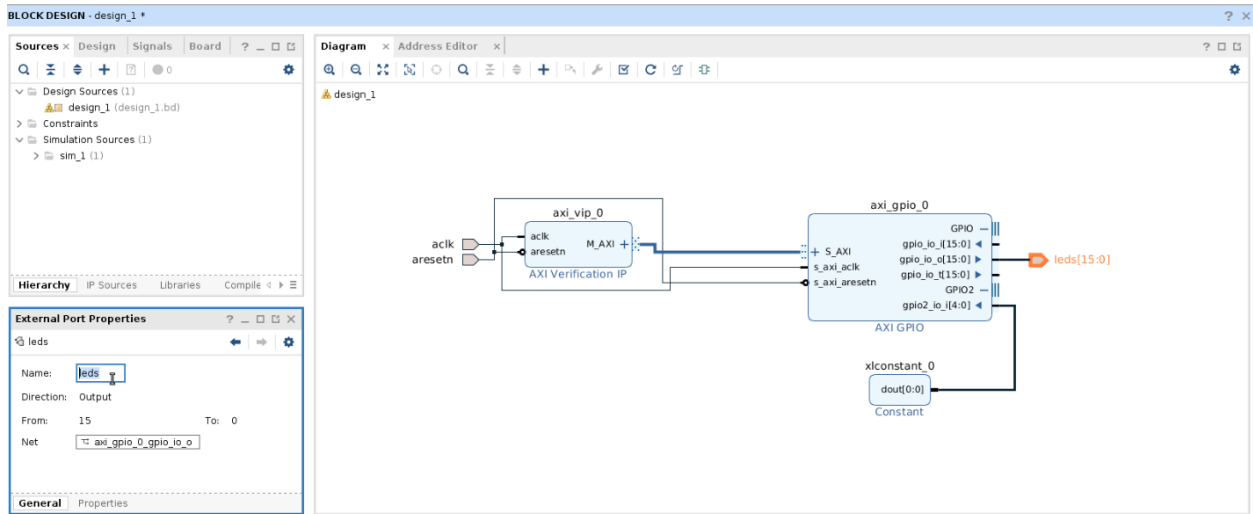

Figure 3: Block design.
6. Add and wire the **AXI Verification IP**, **AXI GPIO**, and **Constant** IPs to the diagram as shown in Figure 3 below. Make sure that the port names match the figure. The **aclk** port should be set as an **Input Clock** port with frequency **100MHz**. The **aresetn** port should be set as an **Input Reset** port set to **Active Low**. The **leds** port should be set as an **Output Other** port which is a vector from **15 to 0**.